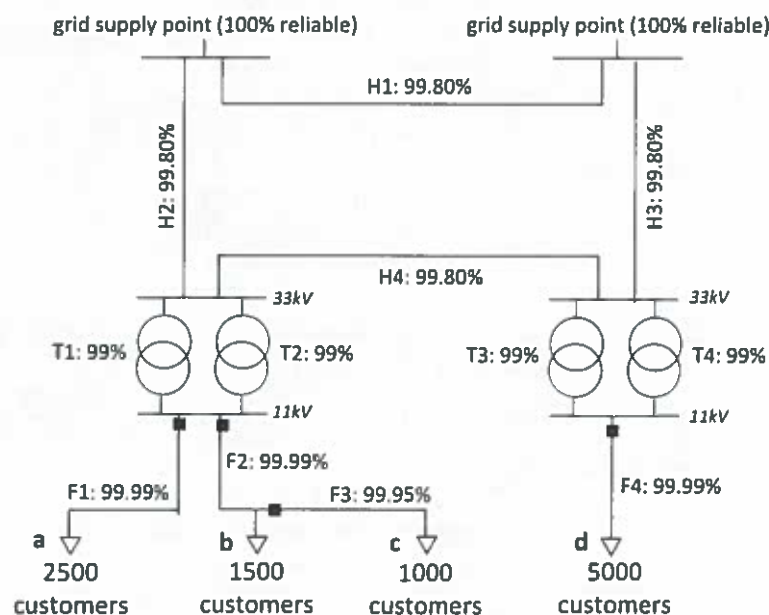

Figure 4.1: network diagram
c) Consider the distribution network in Figure 4.1.